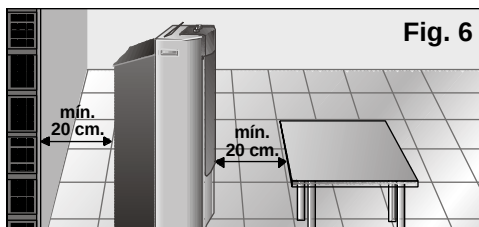

Fig. 6
- ☐ For safety reasons, the appliance must be at least 20 cm away from any nearby surface before it is turned on, **Fig. 6**.